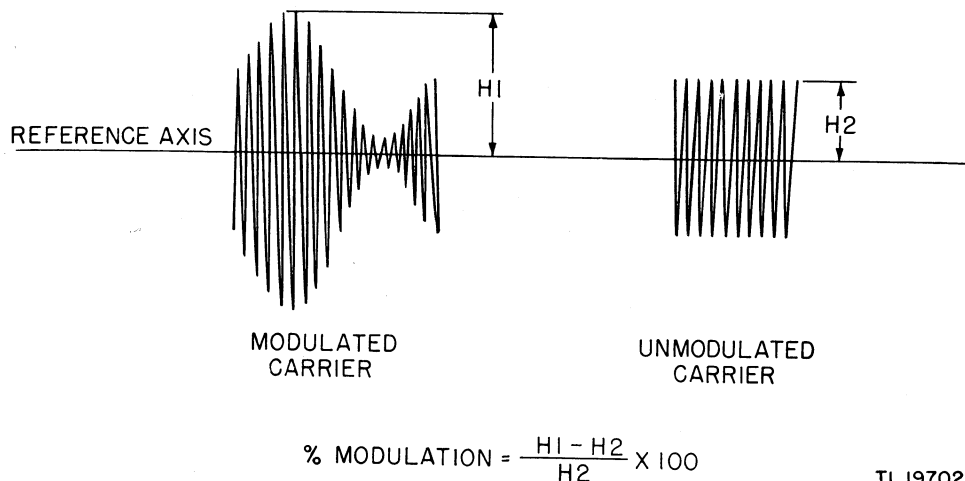

Figure 27. Radio Transmitter BC-610-(*), oscilloscope pattern for modulation test.
c. MODULATION CAPABILITY. (1) Keep the transmitter adjusted for maximum unmodulated phone power output at the same frequency that was used in the previous tests.
(2) Insert the audio signal generator plug into Jack J102 on Speech Amplifier BC-614-().
(3) Turn on the oscilloscope.
(4) Adjust the sweep voltage on the oscilloscope to make the width of the pattern slightly more than half the diameter of the screen.
(5) The unmodulated r-f carrier wave will be seen on the oscilloscope.
(6) The height of the carrier pattern should be approximately one third of the height of the screen.
(7) Since the height of the carrier pattern depends upon the number of turns in the pick-up coil, it may be increased by increasing the number of turns and decreased by decreasing the number of turns of the coil.
(8) Measure the height of the unmodulated r-f wave (fig. 27, H2) above the reference axis.
(9) Adjust the audio signal generator for a frequency of 400 cycles, and turn it on.
(10) Measure the audio input voltage from the audio signal generator to Speech Amplifier BC-614-(), using a high resistance a-c voltmeter or an a-c vacuum-tube voltmeter (VTVM).
(11) Adjust the audio signal generator for an initial output of 0.15 volt.
(12) The transmitter output will now be modulated at 400 cycles.
(13) 90 percent modulation is required for satisfactory operation of the transmitter.
(14) At 90 percent modulation, the r-f current in the external test ammeter will increase approximately 18 percent above the unmodulated value which was obtained in the proceeding test; it should at least equal the r-f output current specified in table X for modulated phone power output.
(15) If the value specified in table X is not obtained with 0.15-volt output from the audio signal generator, increase the output of the audio signal generator up to 0.30 volt, and set the speech amplifier control near maximum in order to obtain the specified value.
(16) Observe the modulated wave on the oscilloscope screen to make certain that the sine wave pattern remains undistorted.
(17) The maximum height of the modulated wave (fig. 27, H1) as seen on the oscilloscope should be 1.9 times as great as the height of the unmodulated wave. (See fig. 27, H2.) This indicates a modulation of 90 percent.
(18) If the modulated phone power output reading equals that specified in table X, and if, with an audio signal generator output of 0.30 volt, the wave height H1 is 1.9 times as high as wave height H2 without distortion, then the performance of the transmitter is satisfactory.